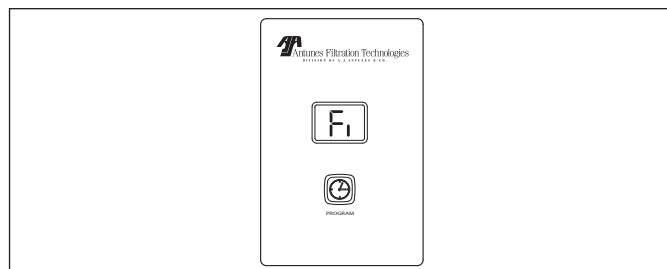

Figure 10. Fi - LED Display for Flush Interval Mode
2. When **Fi** (Figure 10) is displayed, press and release the Program button to view current setting.